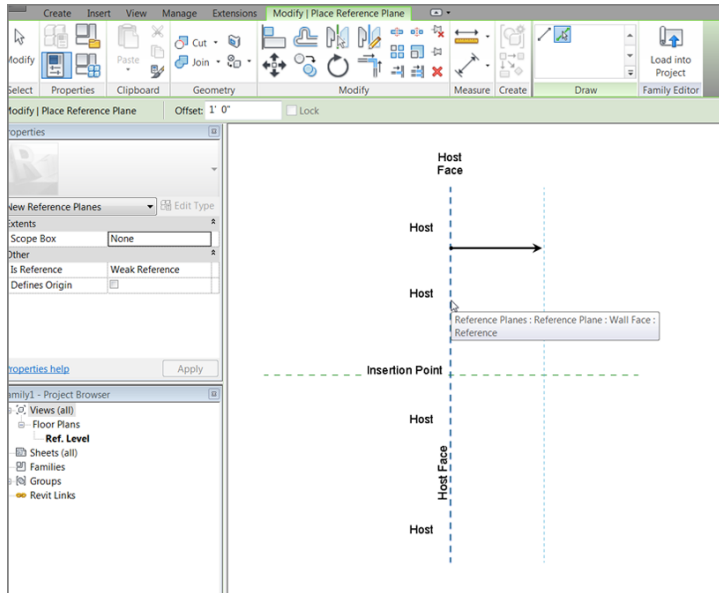

FIGURE 17.2: Adding a second vertical reference plane
4. Hover your cursor over the center, vertical reference plane. When the blue reference line appears to the right of the vertical plane (as shown in Figure 17.2), pick the center reference plane. You now have two vertical reference planes spaced 1'-0" (300mm) apart.